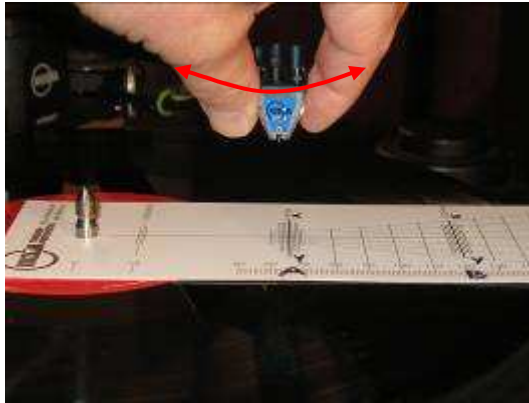

Fig.17 Rotation at A
10. Now rotate protractor and again position stylus at zero point A as described in 5 and 6 above, ensuring that the position of the cartridge in the slots alongside is not changed but only rotated for alignment of the cantilever in zero point A. (Fig.17)